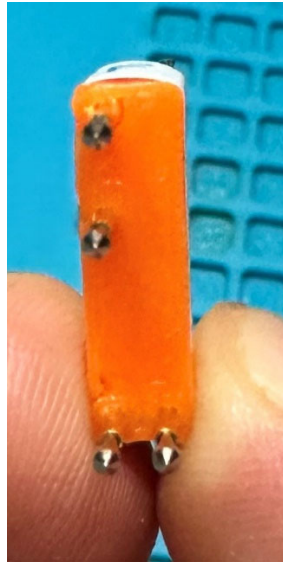

Figure 3
4. Attachment is ready for use. You can use a multimeter to ensure a good connection exists between pin header and pogo pins. (Figure 3 and 4) show a completed pogo pin attachment.